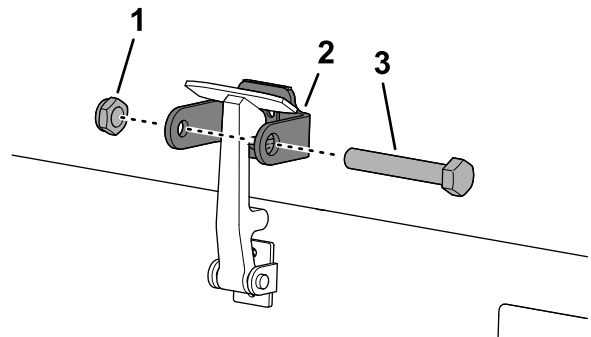

Figure 35
7. Screw the bolt into the other arm of hood-lock bracket to lock the latch in position (Figure 35).